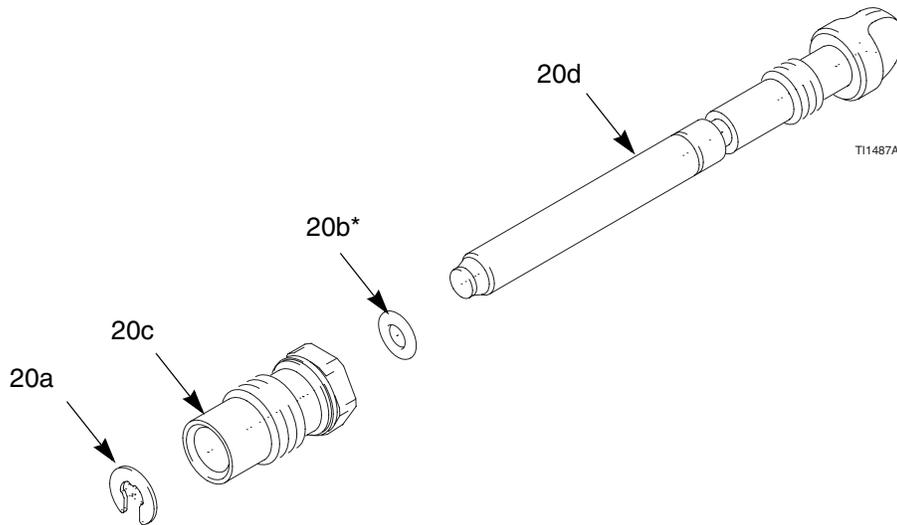

Fig. 19. Atomizing Air Adjustment Valve
3. Remove the retaining ring (20a). See FIG. 19.